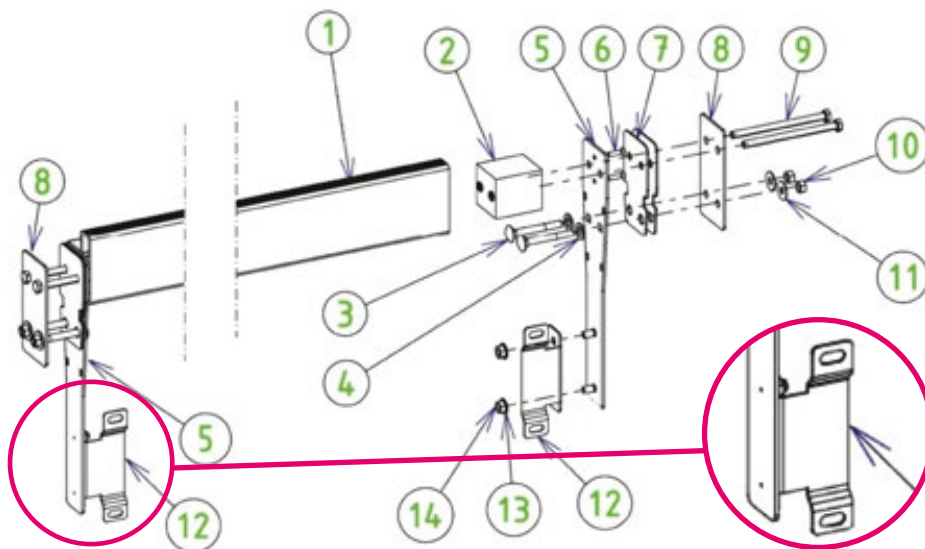

Figure 42 – Assembling and mounting the beam
The beam assembly steps are illustrated in Figure 42. The screws required for assembly are enclosed in bag Y. In this figure, the wooden wall is located between parts 7 and 8, and the liner is sandwiched between the two rubber gaskets (7).
Fasten the two pit wall mounting brackets (12) to the beam mounting plates (5) using four screws (14) and four 8 mm diameter A4 SS washers (13). The protruding parts of the pit wall mounting brackets (12) that feature a slot should be located on the same side of the beam (see the zoom in Figure 42).
Lastly, fasten the pit wall to the brackets (part 12 in *Figure 42*) using four 8 × 16 stove screws (7), four washers and four 8 mm diameter A4 SS nuts.